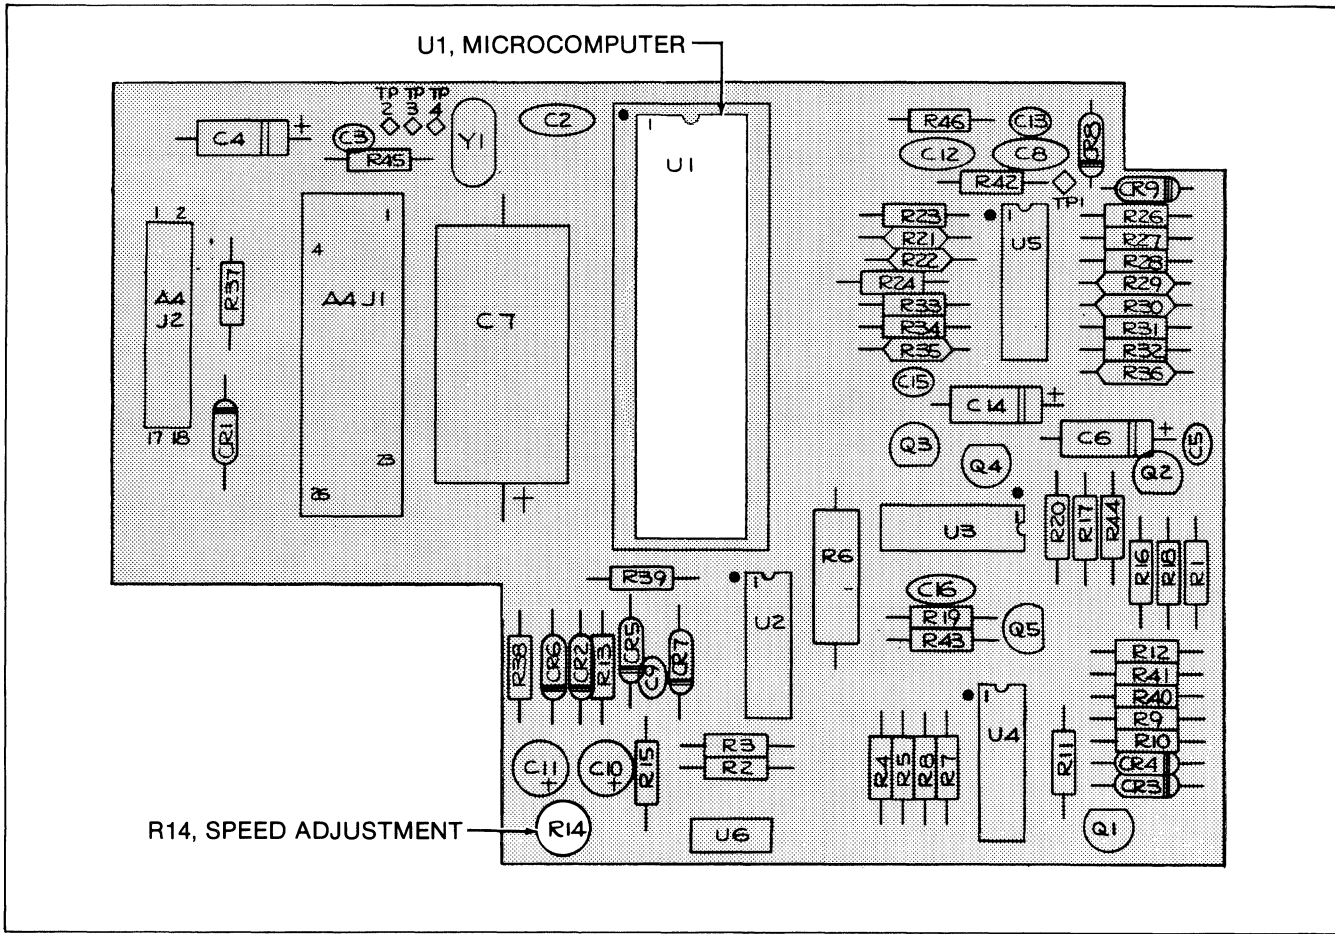

Figure 4-6. Tape Speed Adjustments
- Observe the strobe disk while adjusting R14 (shown in Figure 4-6). The disk strobe lines appear motionless when proper speed is achieved.